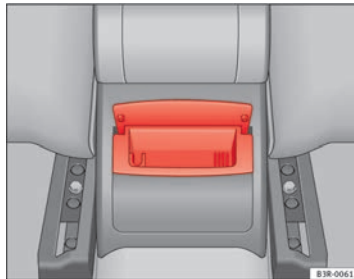

Fig. 132 Rear ashtray
- Take hold of the lid ⇒ Fig. 132 and lift out the ashtray.